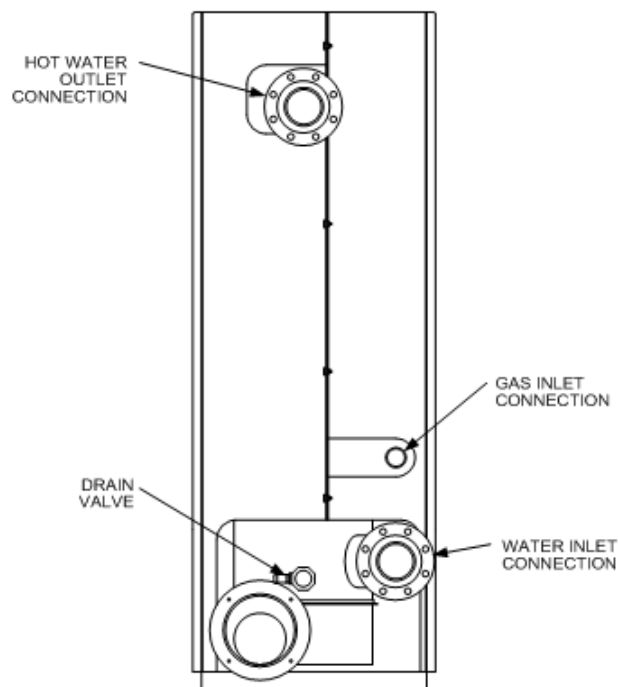

Figure 3: Benchmark 2.0LN (Venturi Design) - (Rear View)
3. At the rear of the unit (Figure 3), slowly open the drain valve and drain the boiler water from the heat exchanger.